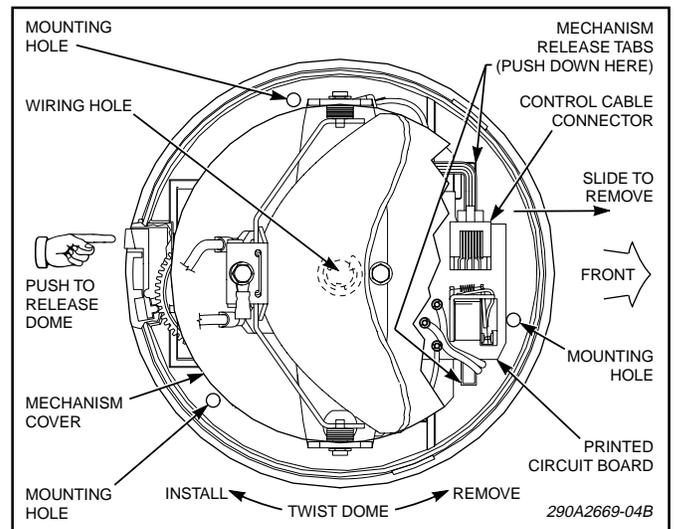

Figure 2.
1. Push and hold the dome release button (located in the plastic base). Turn the dome counterclockwise and lift the dome off the base (see figure 2).
C. Mechanism Removal for Servicing (see figure 2).